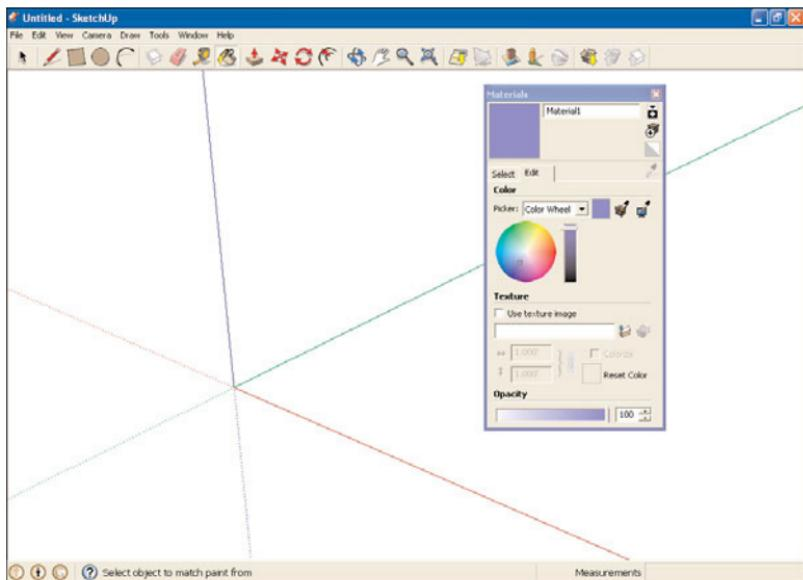

FIGURE 7.13 Editing a material.
4. Select a material by clicking it. This opens the materials in your model, as shown in Figure 7.13.